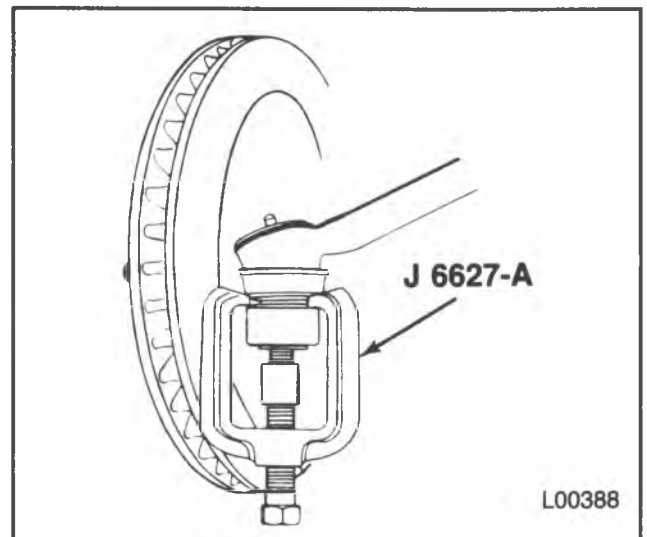

Figure 12 — Ball Stud Removal
- Outer tie rod ball studs from the steering knuckles (4). Use J 6627-A (figure 12).
- Inner tie rod ball studs from the relay rod (2). Use J 6627-A.
1. Cotter pins and castellated nuts from the tie rod assembly (3).
2. Shock absorber (7) from the tie rod assembly (3).
3. The outer tie rod ball studs from the steering knuckles (4). Use J 6627-A (figure 12).